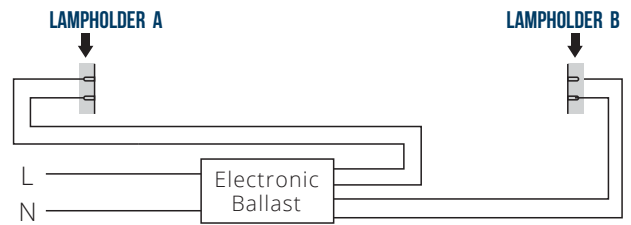
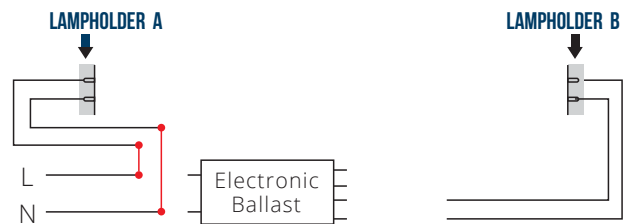

FIGURE 4: BEFORE RETROFIT
FIGURE 6: AFTER RETROFIT
If the light fixture is providing with electronic ballast, disconnect and rewiring the wires at the point as shown in the following figures (see Figure 4 to Figure 6).
STEP 4: Both line and neutral power are required to be connected to the same Lampholder as shown in Figure 3 and Figure 6. Check the wire connectors carefully which shall not be loosened. Be sure that the splices or connections should be insulated reliably, and they should be in the enclosed splice compartment.